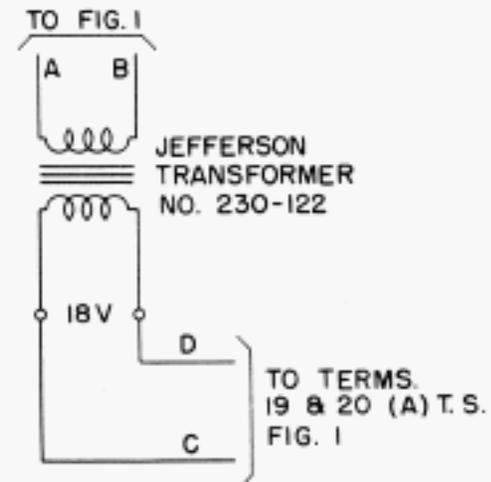
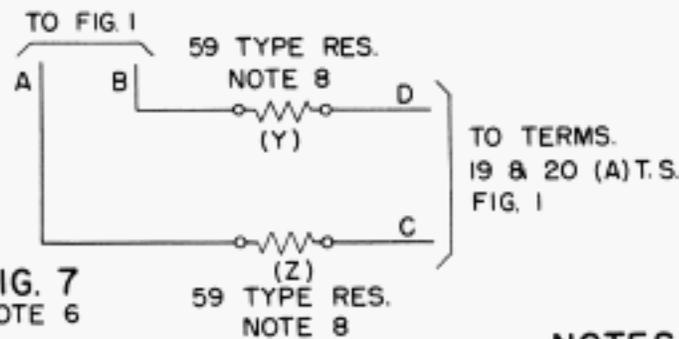

FIG. 8
FIG. 7
6. USE FIG. 6 FOR 60~A.C., FIG. 8 FOR 25~A.C. AND FIG. 7 FOR D.C.